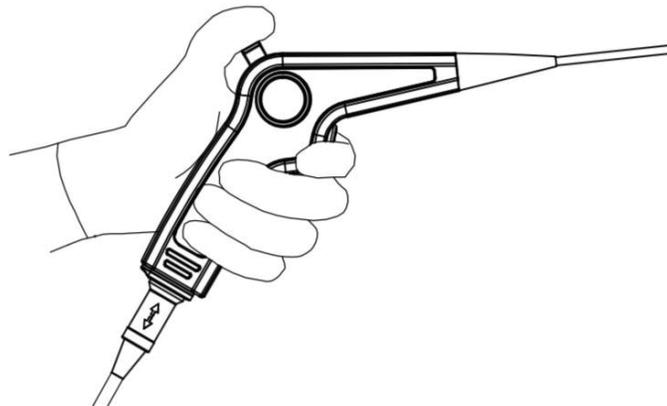

Fig 3.6
2. As shown below in Fig 3.6, turn the UP/DOWN angulation control knob slowly to its neutral position, confirm that the bending section returns smoothly to an approximately straight condition.